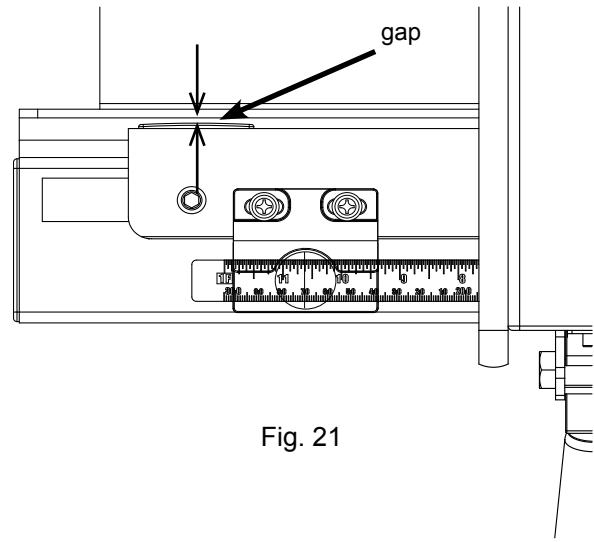

Fig. 21
21. Once the fence is tightly clamped to the front tube, move the left end of the tube back toward the saw until there is only a small gap (approximately 1/16 inch) between the front rail and the rear of the fence (see Fig. 21). Tighten the left-most M8 x 16 hex head bolt that holds the tube to the front rail using a 13 mm wrench.